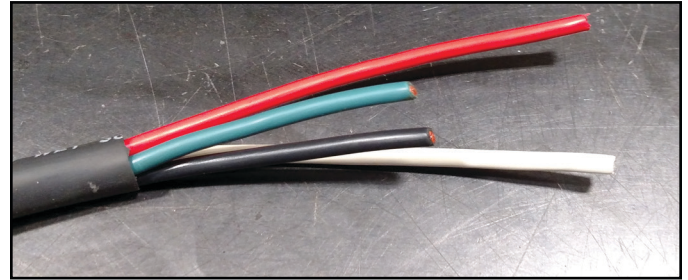

Figure 1
STEP 1: Cut back outer jacket about 2 inches, Caution do not nick jacket of the inner wire. Off set/stagger the inner wires, and strip ends. (See Figure 1)